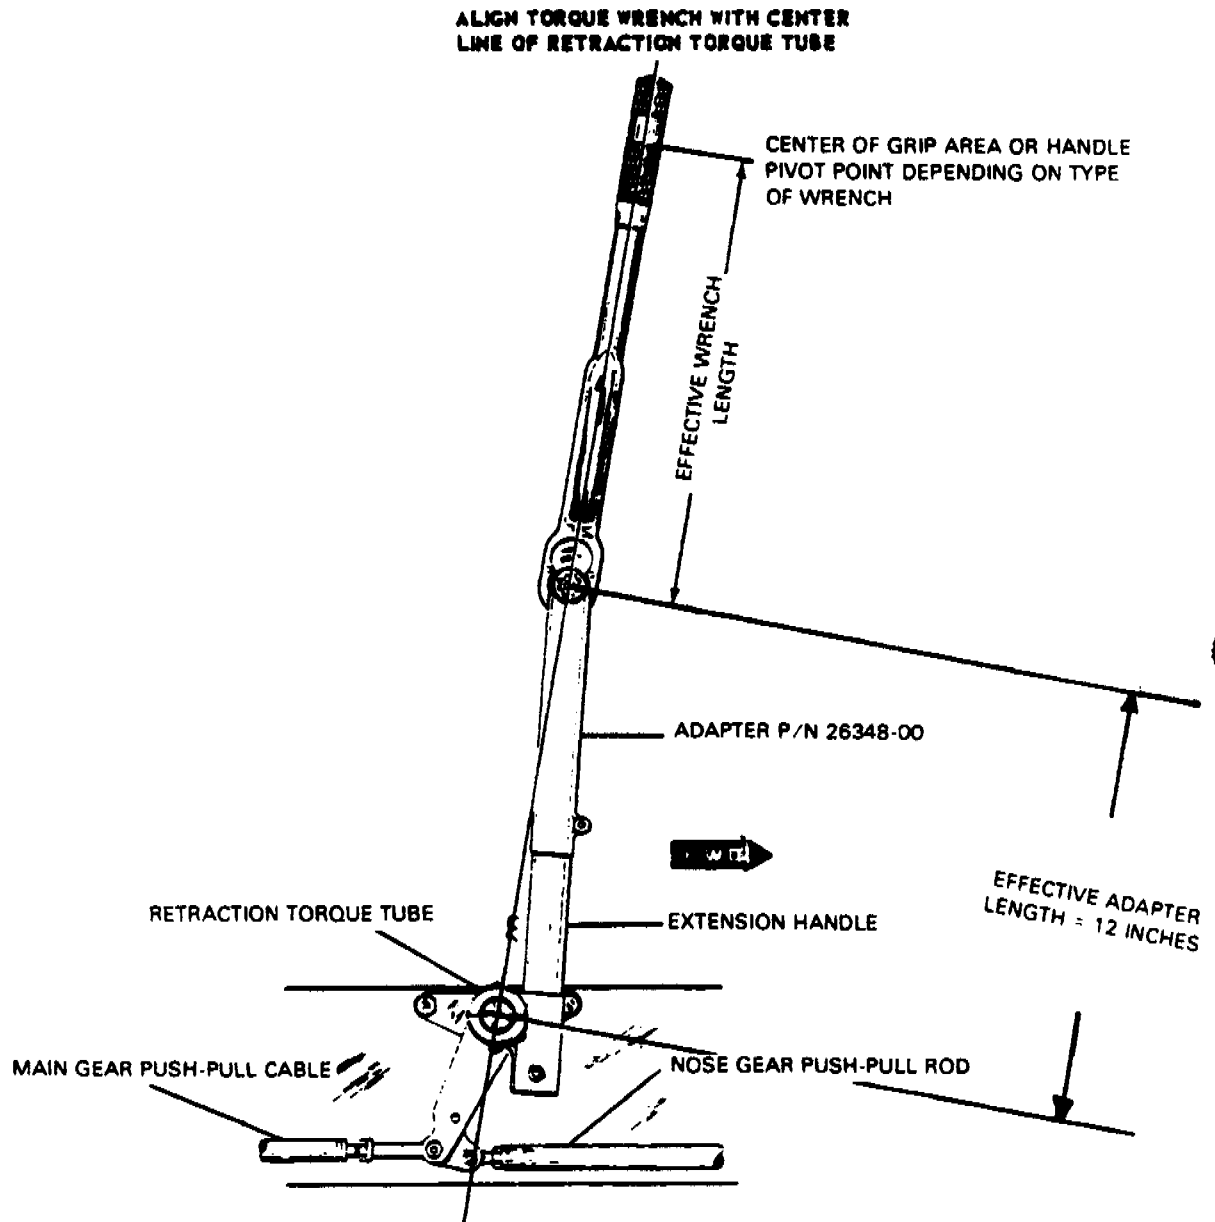

Figure 6-19. Torque Wrench and Adapter Installation
6-58. Checking Landing Gear Retraction Load. (Refer to Figures 6-19 and 6-20.) After the landing gear has been lubricated and properly adjusted as described in the preceding paragraphs, check retraction load by using the following procedure:
- d. On airplanes with Serial Nos. 24-1 to 24-4782 inclusive and 24-4784 to 24-4803 inclusive, remove the red knob on the emergency extension lever and install adapter tool, P/N 26348, on the lever with attaching bolt forward. (Refer to Figure 6-19.)